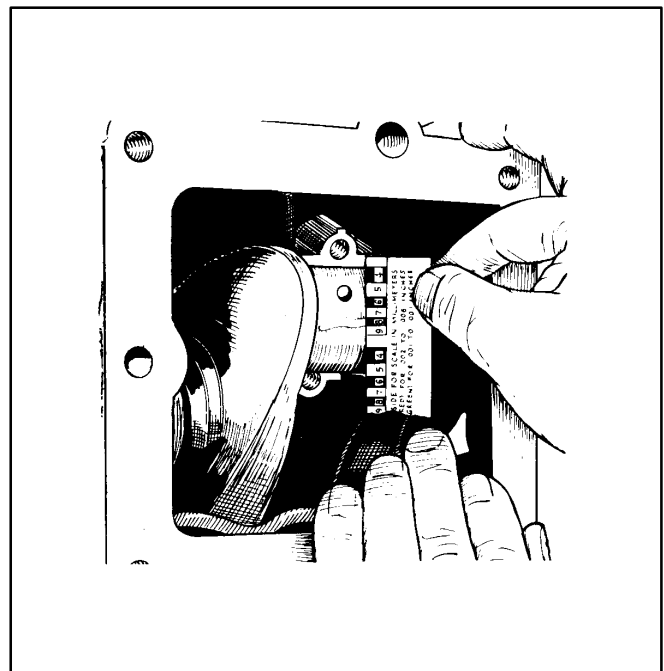

FIGURE 87. USING PLASTI-GAGE
2. Select Plasti-gage that corresponds to the connecting rod bearing clearance specification (0.0020-0.0033 inch [0.051-0.084 mm]). Place the piece of Plasti-gage across the full width of the bearing cap, about 1/4 inch (6 mm) off-center (Figure 87).